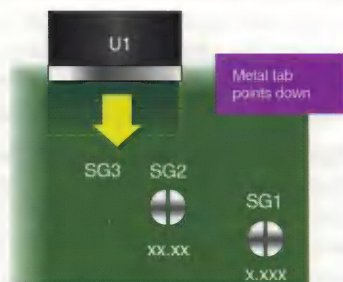

Figure 2. Installing U1
3. **Battery Operation:** Do not use this feature with blue LED meters. Open SG4 and install U1 (LM7805CT) with its metal tab facing down as shown Figure 2. Allowable input power ranges (J1, pins 5 and 6) are as follows: